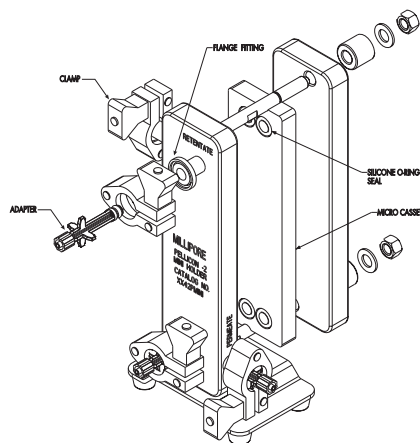

Figure 2: Installing the Adapter Assembly
11. Using the torque wrench and 15/16 in. deep hex socket, turn each nut 1/8 turn in the sequence shown in Figure 2. When the wrench clicks, this indicates that the set force has been reached. DO NOT OVER TORQUE. Evenness of torque is critical to system performance.